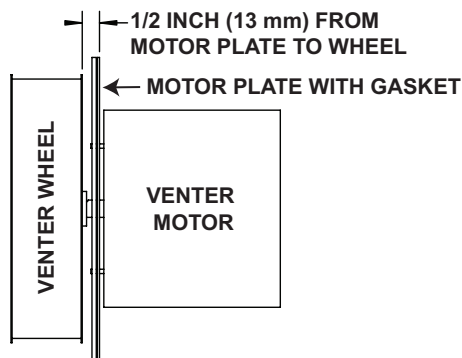

Figure 34. Venter Wheel Position on Shaft (Unit Sizes 130–310)
- c. Reassemble with replacement venter motor and wheel. Ensure that venter wheel is properly positioned on shaft (see Figure 34).